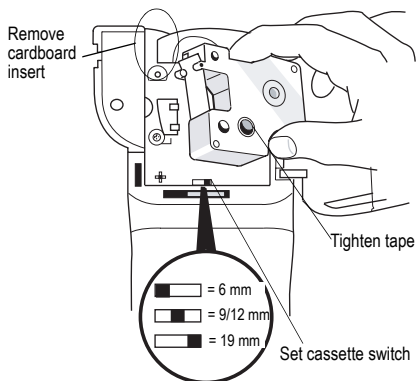

Figure 4
▼ The first time you use the printer, remove the protective cardboard insert from between the print head and pinch roller. See Figure 4.
2. Set the cassette switch for the size of the tape cassette that you are inserting. See Figure 4. A notch in the cassette fits over the switch when the cassette is in the correct position.